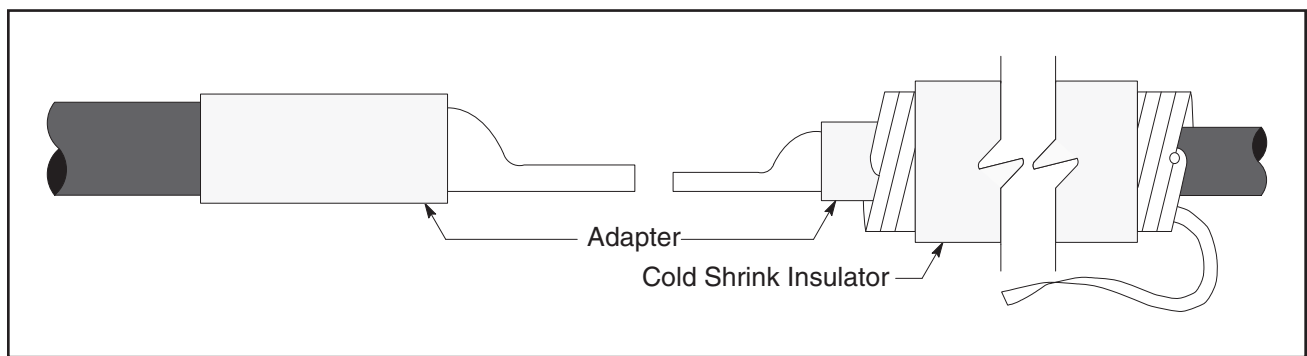

Figure 2
- 3.2 Apply silicone grease to the inside at one end of the adapters. (If necessary grease cables). Slide (grease end first) onto lugs and cables just far enough to clear the lug holes (*Figure 2*).
- 3.3 Slide the Cold Shrink Insulator onto the smallest cable. The direction of the loose core end tab should be where it is most easily removed later (*Figure 2*).